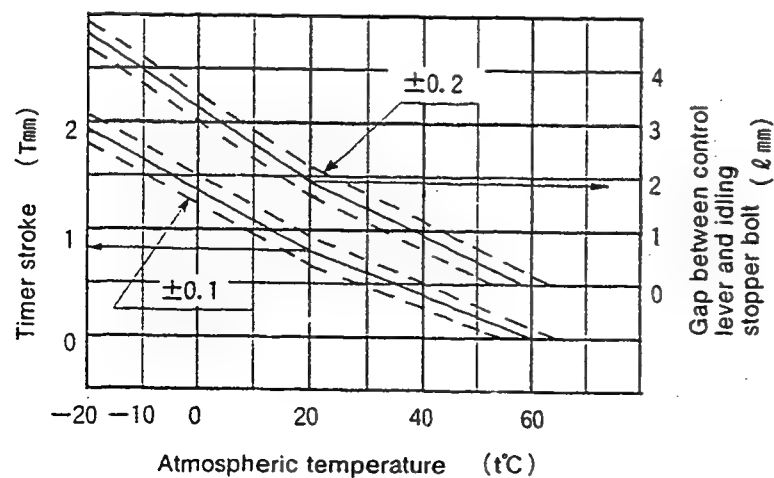

Fig. 2
1. Calculate the timer stroke from Fig. 2 according to the atmospheric temperature at the time of adjustment.
1. Calculate the block gauge dimension  $\ell \pm 0.05\text{mm}$  from Fig. 2 according to the atmospheric temperature at the time of adjustment.
#### Formula for calculating Fig. 2